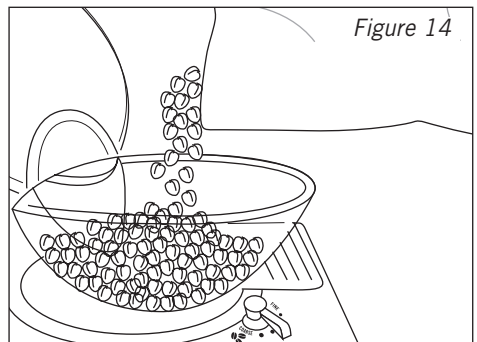

Figure 14
- Open the lid of the hopper and fill with fresh coffee beans. Then close the lid. See figure 14.